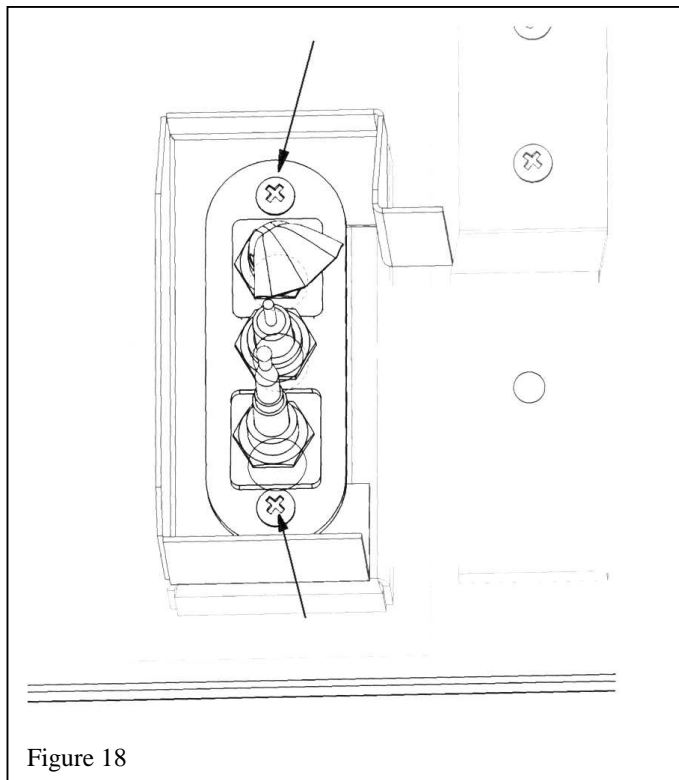

Figure 18
6. Disconnect the pilot unit from its bracket by removing two screws. See figure 18.